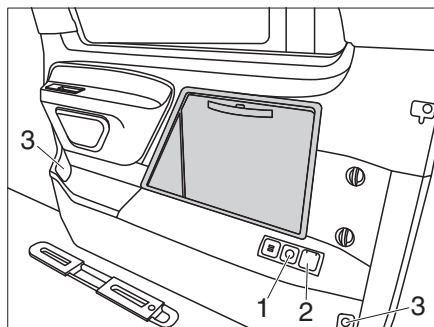
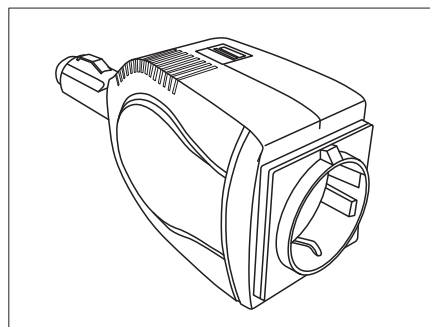

Fig. 17 Outlets in the vehicle
Fig. 18 AC converter
- while driving on one of the original Mercedes 12 V sockets (Fig. 17,3) with inverter (Fig. 18).
- using the 230 V outlet (Fig. 17,2). The vehicle needs to be connected to a 230 V shore power supply.
- using the 12 V outlet (Fig. 17,1) of the optional e-pack with an AC converter (Fig. 18).